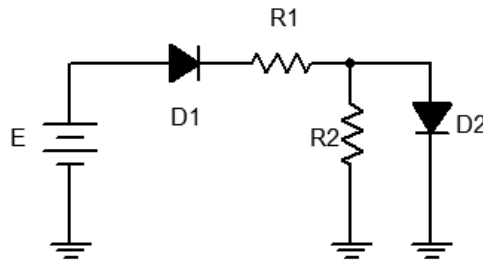

Figure 1.3
7. Consider the circuit of Figure 1.3 using  $E = 12$  volts,  $R_1 = 10 \text{ k}\Omega$  and  $R_2 = 4.7 \text{ k}\Omega$ . Analyze the circuit using the ideal .7 volt forward drop approximation and determine the voltages across the two resistors. Record the results in the first two columns of the first row (Variation 1) of Table 1.3.
8. Build the circuit of Figure 1.3 using  $E = 12$  volts,  $R_1 = 10 \text{ k}\Omega$  and  $R_2 = 4.7 \text{ k}\Omega$ . Measure the voltages across the two resistors. Record the results in columns three and four of the first row (Variation 1) of Table 1.3. Also compute and record the percent deviations in columns four and five.
4. If the circuit of Figure 1.3 had been constructed with LEDs in place of switching diodes, would there be any changes to the values measured in Table 1.3? Why/why not?